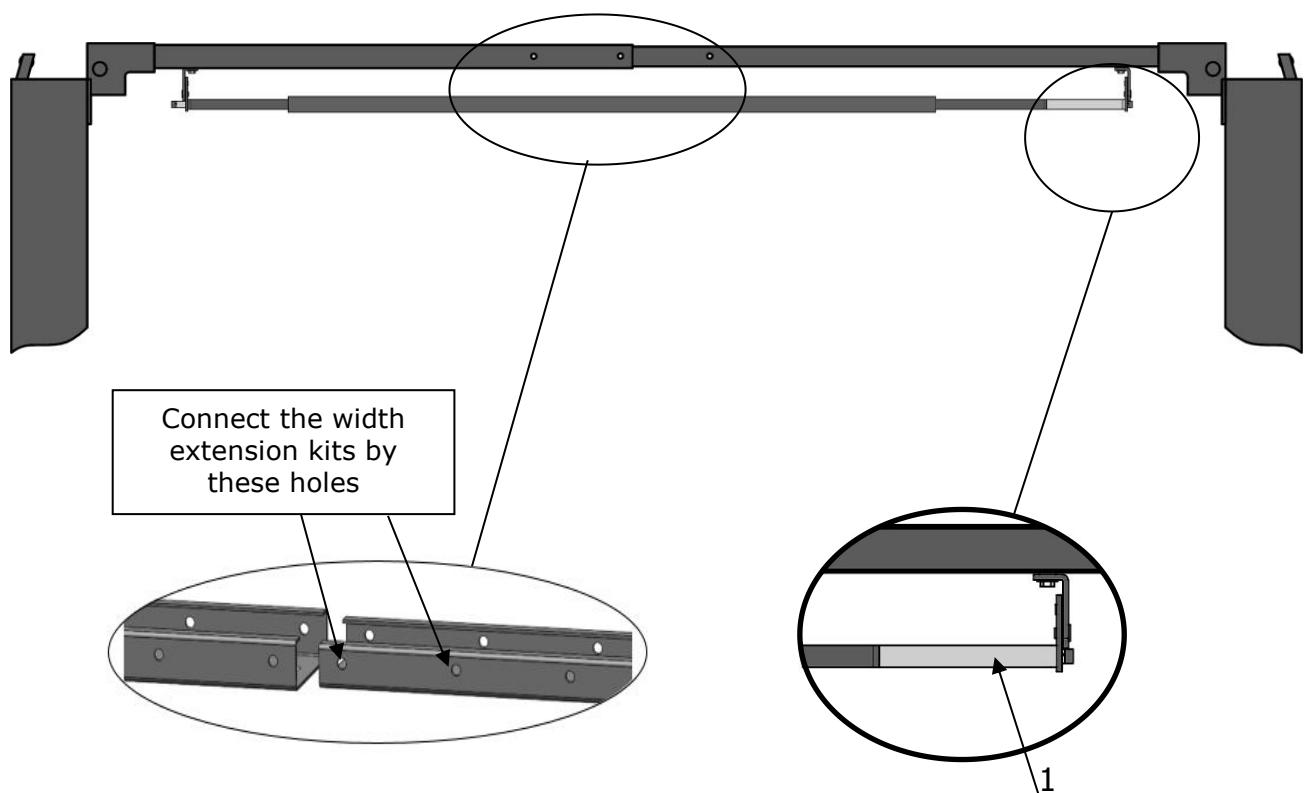

Fig. 47
1. **Install the limit switch control bar and top beam (See Fig. 47).**